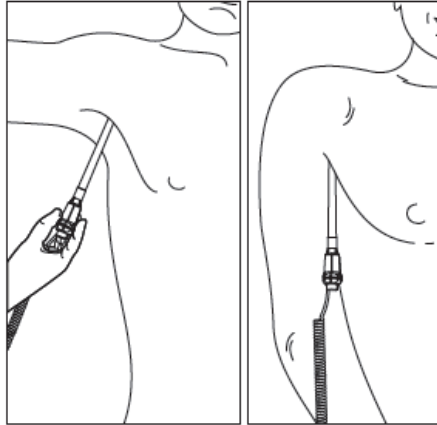

Figure 54. Method of Filac 3000 Axillary Measurement
2. Have the resident then lower the arm and remain as still as possible. Hold the probe parallel to the arm as shown in Figure 54.